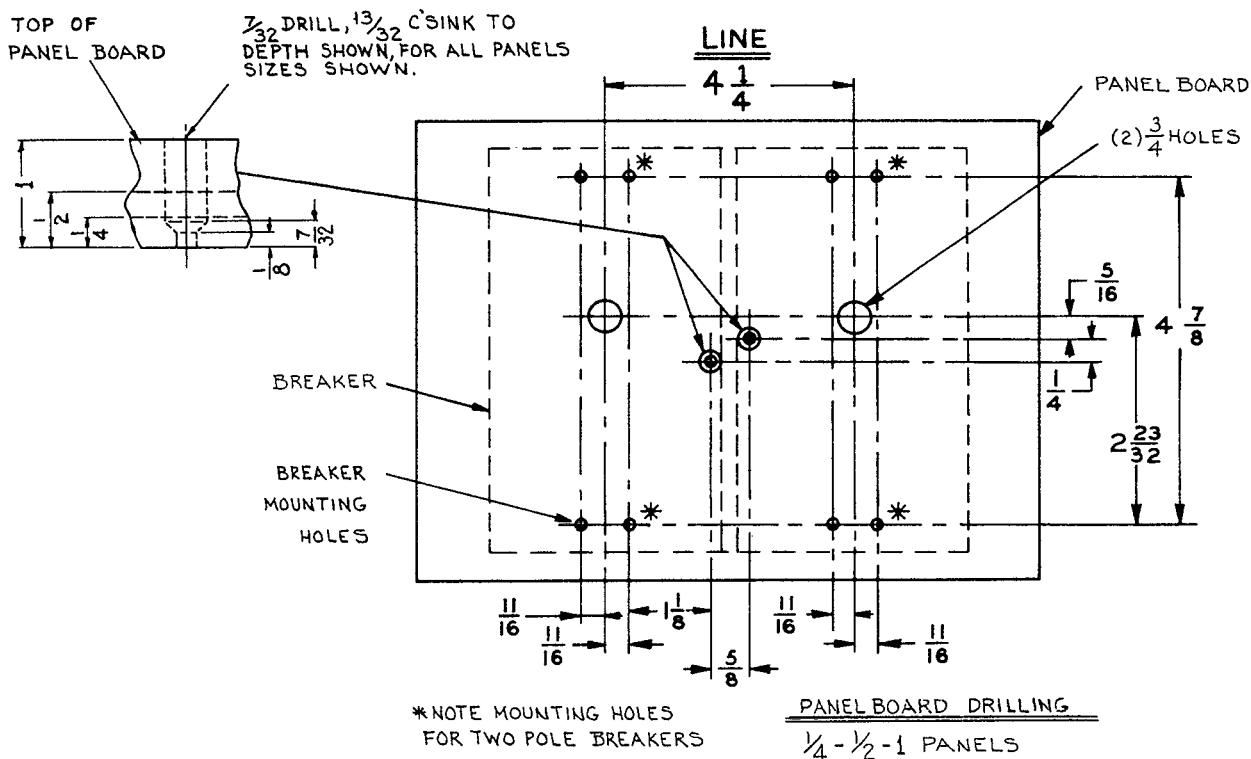

FIGURE 1
- A. Drill two $\frac{3}{4}$ " diameter holes $4 \frac{1}{4}$ " in mounting panel. (See Fig. 1) Maximum overall mounting panel thickness is 1-inch.